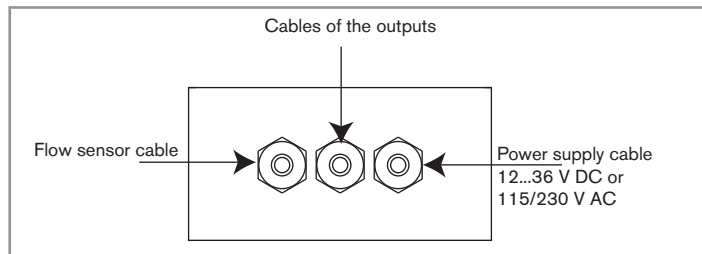

Fig. 12 : Using the cable glands
- Insert each cable through a nut than through the cable gland, using the cable glands as shown in Fig. 12.